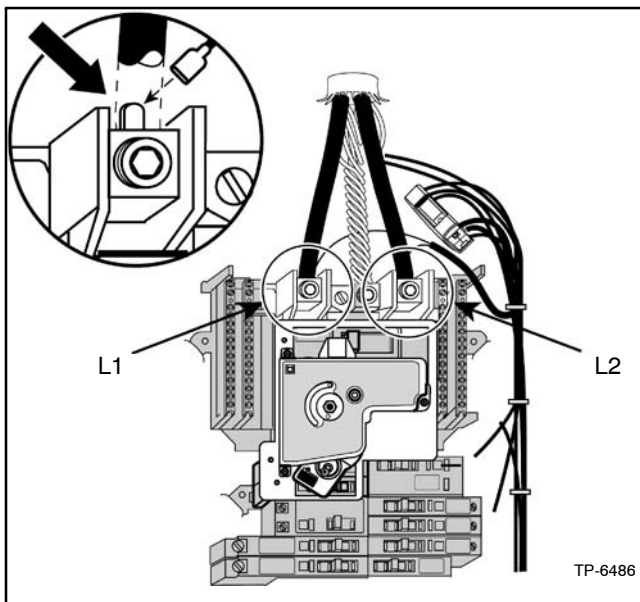

Figure 2-26 Utility Control Tap Connections, Type 1 Enclosures
1. Connect lead NL1-A to terminal L1 on the main circuit breaker. See Figure 2-26 or Figure 2-27.
1. Install the line conductors at terminals L1 and L2 and secure the terminals with a 3/8 in. hex wrench or hex key. Torque the terminals to 28 Nm (250 in. lb.). See Figure 2-26 or Figure 2-27.